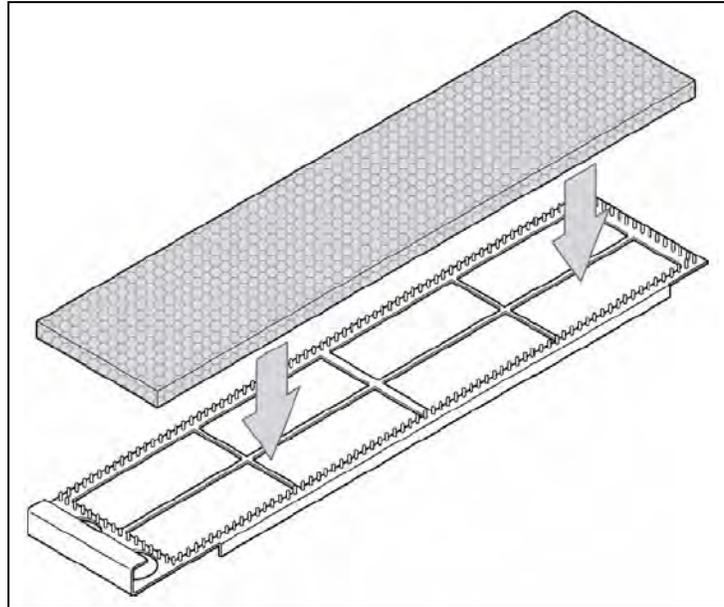

Figure 5.11 - Top Air Filter Replacement
8. Attach the new filter to the frame (Figure 5.11). Ensure that it is aligned with the frame.